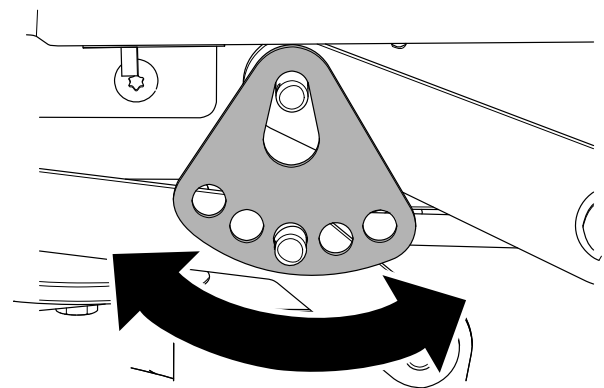

Figure 66
7. Rotate the height-of-cut plate to a different hole so that it supports the weight of the mower deck after you install the plate (Figure 66).
8. Install the washer and hairpin cotter (Figure 66).